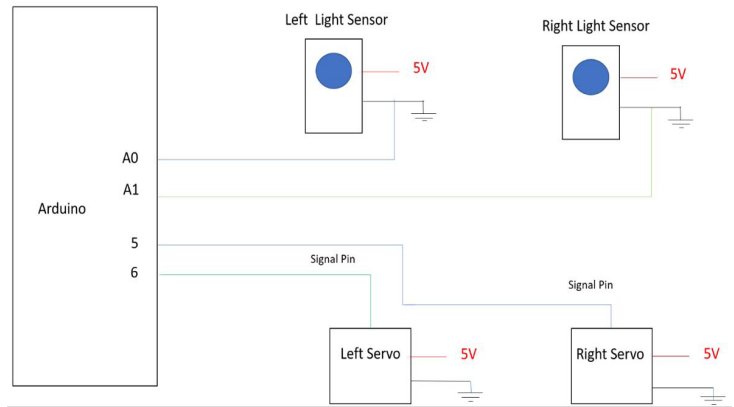

Figure 3.
Step 3: I attached all the components to a breadboard to make it neater and easier. I then attached everything I had connected to a soft drink can, which would act as the body of the dragonfly. See Figure 3.